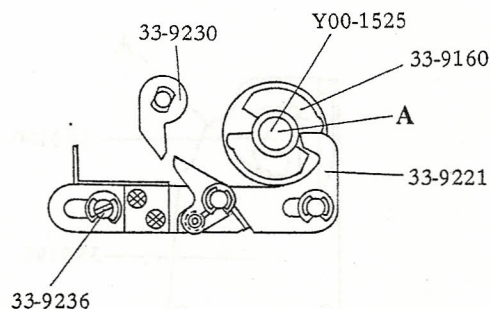

Fig. 11
2. Adjust the Eccentric Screw (33-9236) so that the Interlock Claw (33-9230) is disengaged at the press of the shutter button (Fig. 11).
Requirement: The microswitch should be activated at the position of $-1.2 \sim -1.4\text{mm}$ from the maximum "A" when the shutter button is pressed (Fig. 11).
2. Loosen the Screw (X18-200508) and adjust the engagement "B" of the Shaft (Y00-1525) so that it comes in contact with the stopper (Fig. 11 and Fig. 14).